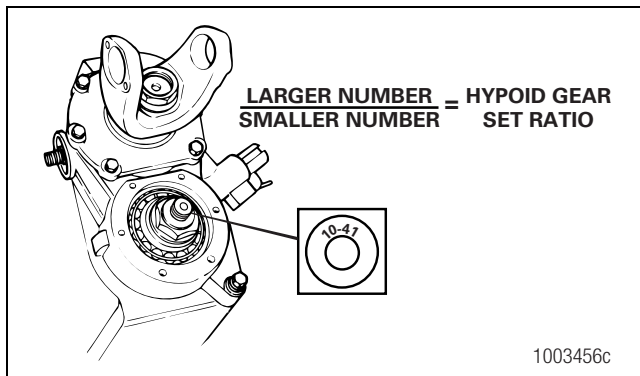

Figure 4.19
- Look into the carrier housing. Identify and record the gear set teeth numbers stamped on the drive pinion end. Figure 4.19.
3. Calculate the hypoid gear set ratio by dividing the larger number by the smaller number. Figure 4.19.